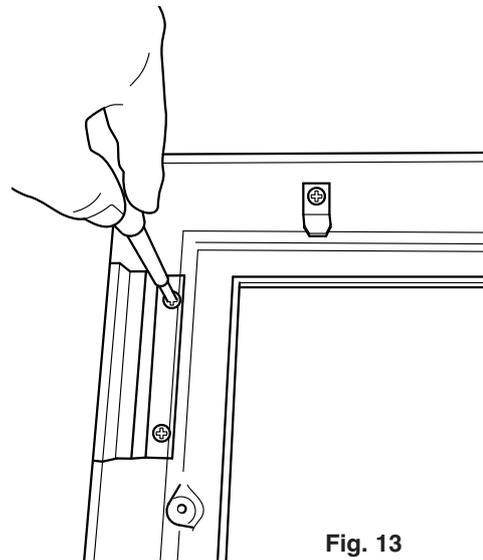

Fig. 13
6. Remove the blanking plate to enable the slide mechanism to operate by removing the two screws (Fig. 13).